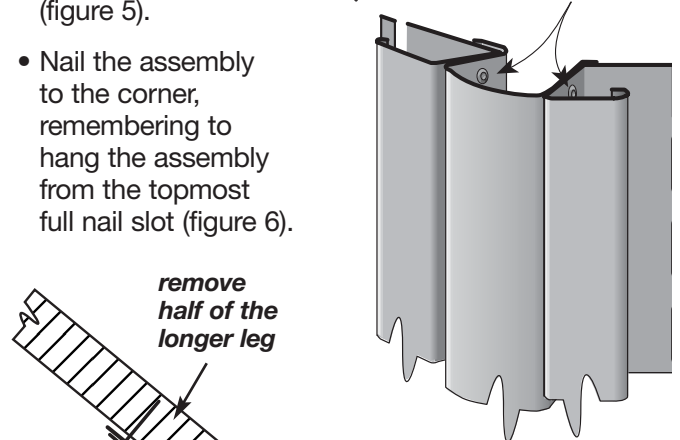

FIGURE 6
- Nail the assembly to the corner, remembering to hang the assembly from the topmost full nail slot (figure 6).